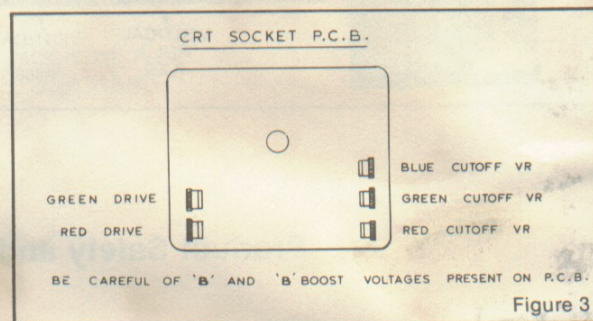

Figure 3
4.7 CRT cut off controls (See fig. 3)
4.8 Video drive controls (See fig. 3)
- 1.5 Turn off the green and blue fields and adjust setup controls to produce a red field. (See fig. 3)
Refer to figure 3. Do the following in subdued light: